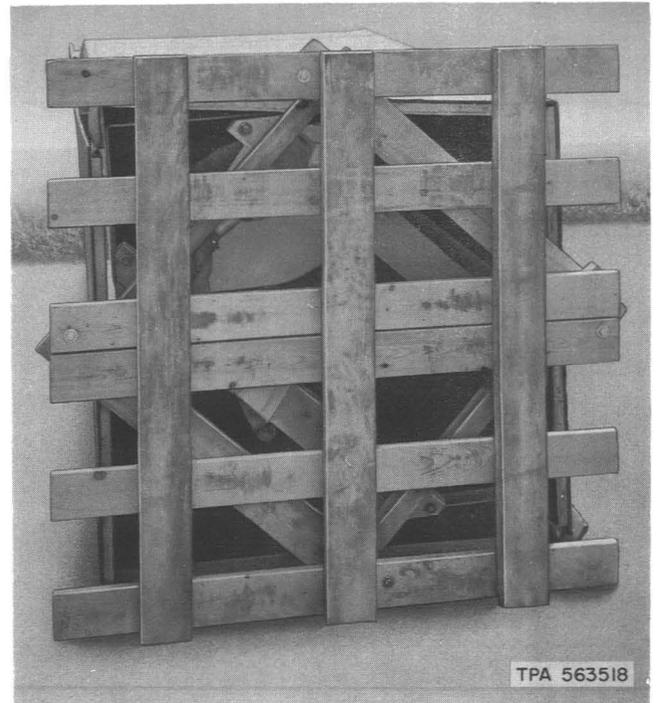
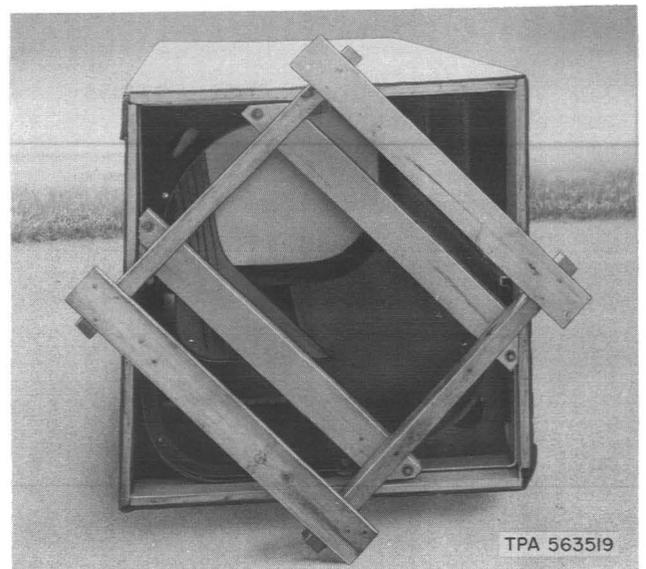

Fig. 17—Kiosk in Horizontal Position
Fig. 18—Bottom Portion of Skid Removed
- (2) Before removing any packing material, lay kiosk down with marking "FRONT OF KIOSK" facing up (Fig. 17).
- (3) The bottom skid is in two parts. Remove hardware (Fig.17) and detach bottom part of skid (Fig. 18).